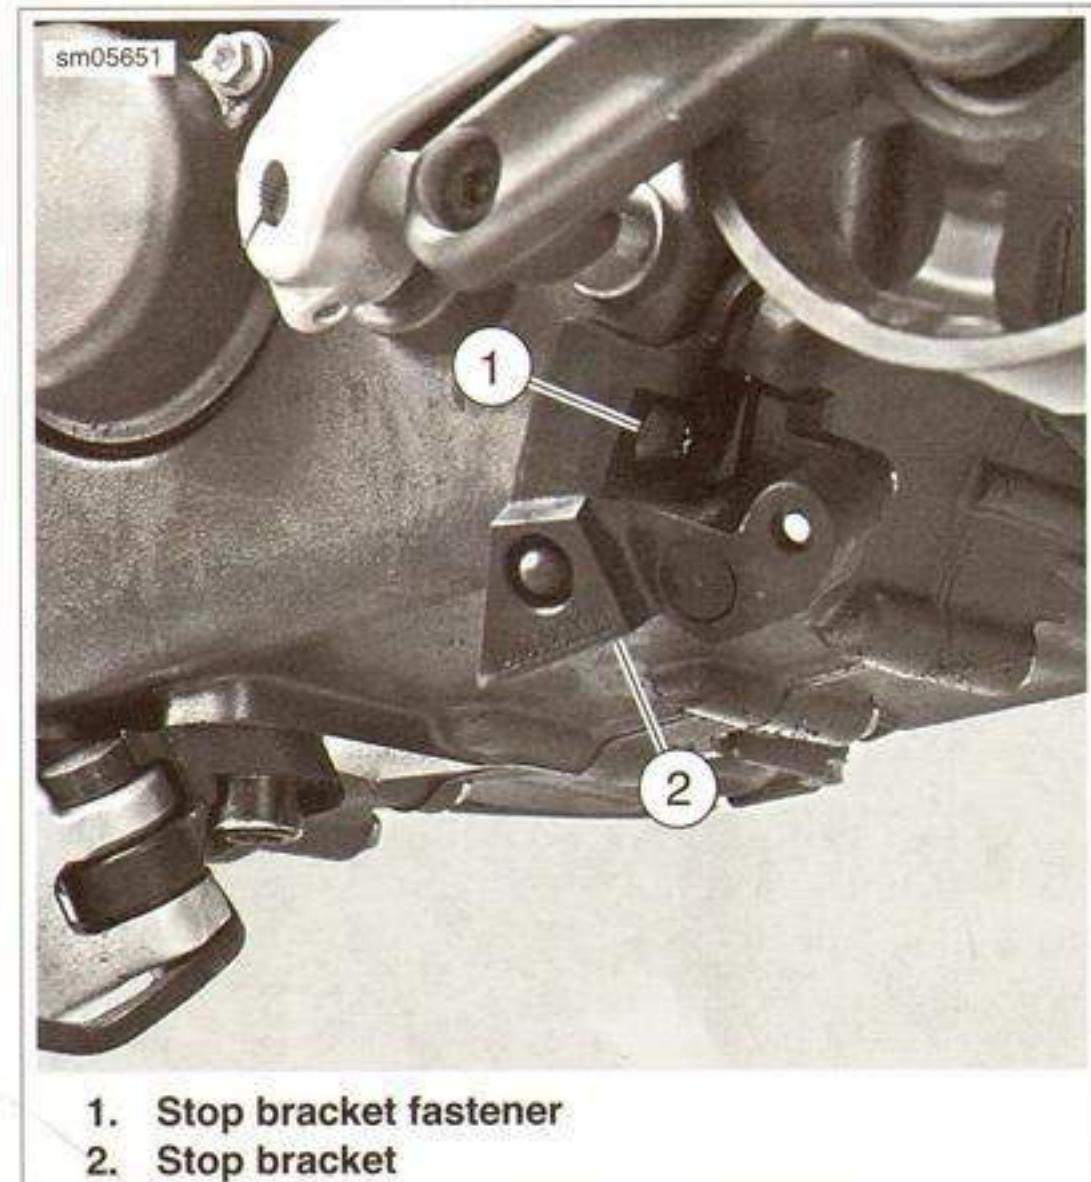

Figure 2-172. Sidestand Stop Bracket
1. See Figure 2-172. Remove the fastener (1) and the sidestand stop bracket (2).